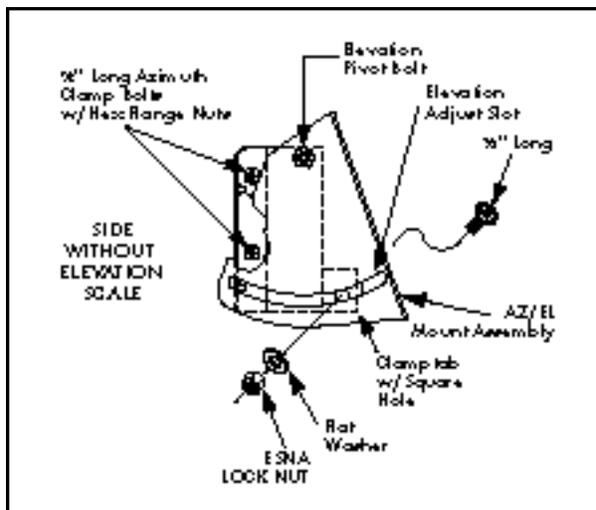
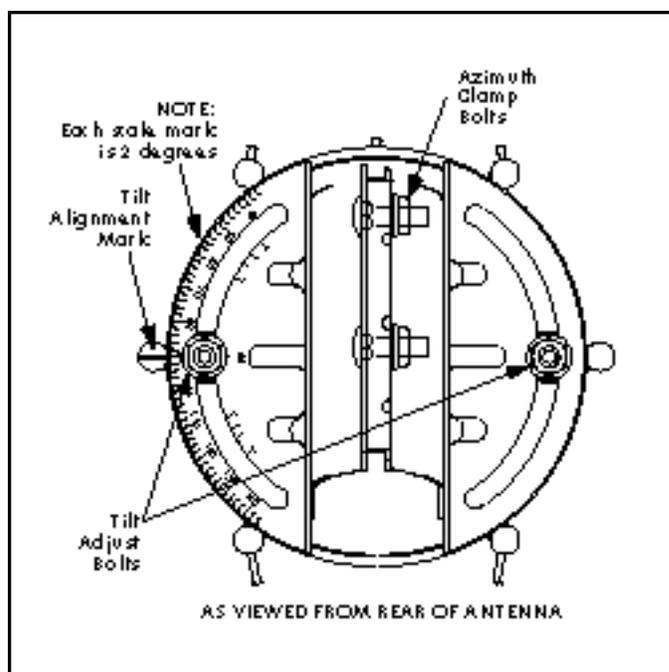

FIGURE 3 - Az/El Assembly - Opposite side of Figure 4
FIGURE 5A
3. On clamp/mount assembly, install (2) $\frac{7}{8}$ " long azimuth clamp bolts and flange nuts as shown in Figure 3. Do not tighten at this time.
4. Install a $\frac{1}{2}$ " long carriage bolt through the square hole in the clamp tab and elevation adjustment slot. Capture with a flat washer and ESNA locknut. Tighten nut and then loosen $\frac{1}{3}$ turn. See Figure 3. **For units NOT equipped with fine elevation adjustment, skip to Step 7.**
7. **If the Fine Elevation bolt is not equipped on your model,** install the second $\frac{1}{2}$ " long carriage bolt through square hole in the clamp tab, then through the elevation adjustment slot on side with embossed elevation scale and capture with a flat washer and ESNA locknut. Tighten nut and then loosen $\frac{1}{3}$ turn. Similar to Figure 3.
9. Make the **PERMANENT TILT adjustment**. Remember, this is the value listed for your site location which was determined from your satellite receiver menu screen. (Do not use numbers from any other sources.) Be sure both bolts in the slots are 1/3 turn loosened from tight during adjustment. After adjustment, securely tighten after the desired tilt scale number is aligned with the molded indicator line on the antenna. See Figure 5A..
1. Slide the clamp/mount on the antenna assembly onto the Universal Mount mast and loosen/tighten the (2) azimuth clamp bolts (see Figure 5A) and the elevation pivot bolt (See Figures 3 and 4) just enough that the antenna assembly is set into the mast all the way until the top of the mast meets the elevation pivot bolt/spacer.
2. Tighten only the elevation pivot bolt. This will not restrict the azimuth (horizontal) rotation. If, after the antenna assembly is already mounted on the antenna mast, and the elevation adjustment screws are loosened or the tilt adjustment screws are also accidentally loosened, tightening the elevation pivot bolt will prevent any extra free play of the Az/El mounting assembly. See Figures 3 and 4.
8. Carefully tighten all of the elevation and mast clamp bolts, (See Figures 3, 4, 6A), trying not to move the antenna on the mast while you do so. After tightening the bolts, make certain that the signal meter is still locked onto a signal for all satellites and the signal value has not changed.